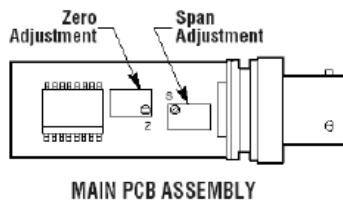

Figure 3.1
- Using a jewelers screwdriver or suitable instrument, adjust the “Z” pot (See Figure 3.1) until you have zero output.
i IMPORTANT: Do not make changes to the Span adjustment (the “S” pot to the right, see Figure 3.1) as part of the zero trimming. The Span should only be changed as part of the recalibration of a transducer with a known pressure source.
- Apply full scale pressure to the pressure port and adjust the Span (“S”) pot (on the right of Figure 3.1) until the full scale signal is reached.